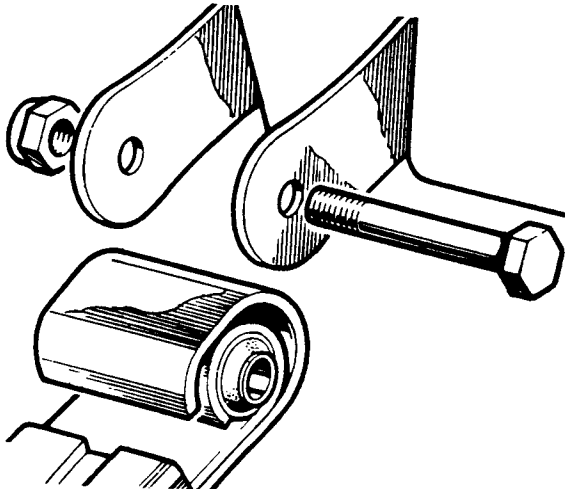

Fig J1.10
(12) Refer to Fig J1.10. Slacken the six shackle pins at the rear road springs, then remove the two rearmost shackle pins.
(13) Lower and withdraw the rear axle.